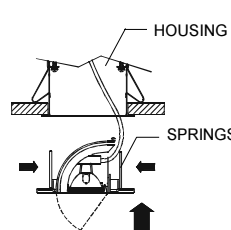

FIG.9
- Push the trim into the housing ,compressing the (2) springs as shown. (Fig.9)
- Adjust the angle of the beam towards the baffle by using the frosted glass. (Fig.9)